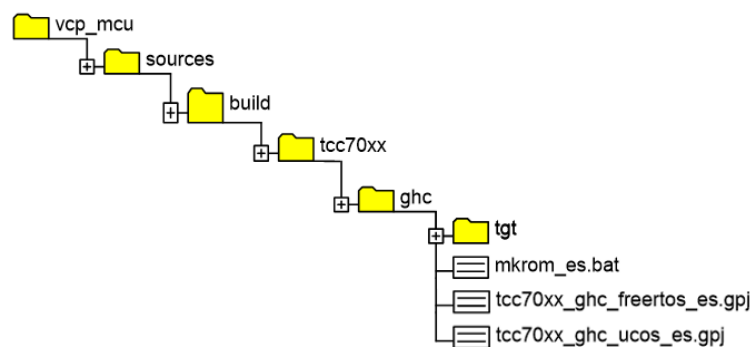

Figure 5.7 Generated Project Files
- 1) In project directory, **.gpj** files and **tgt** folder are automatically generated as shown in Figure 5.7 Generated Project Files.